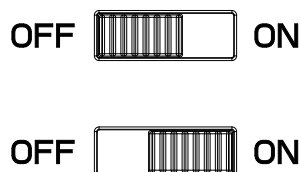
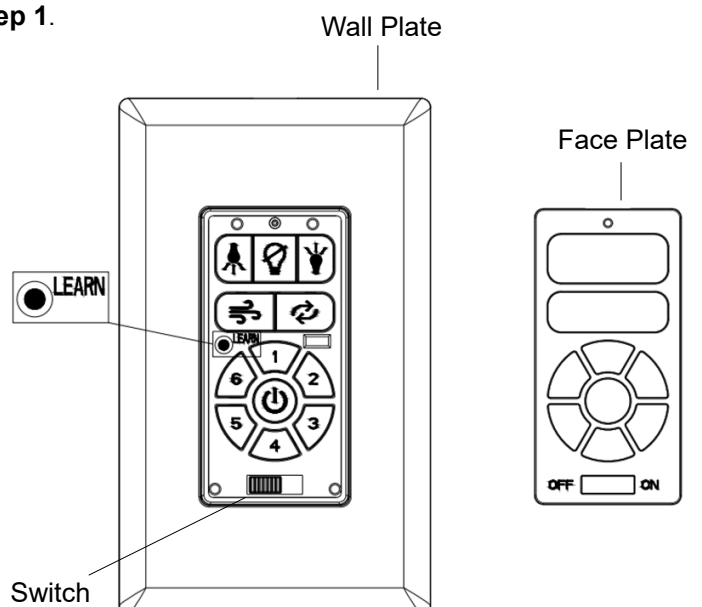

FIG. 4
FIG. 5
Step 1. Slide the **OFF/ON** switch on the face of the transmitter to the “**ON**” position (**Fig. 4**), then press the **LEARN** button on the transmitter. (**Fig. 5**) The fan will turn on for 10 seconds and the light kit (if applicable) will toggle three times and switch to off. This confirms that the pairing process is complete.
Step 2. Snap the face plate back into place on the front of the transmitter first, then snap the wall plate into place on the mounting plate. (**Fig. 5**)
NOTE: To access the **LEARN** button, remove the wall plate (insert a small, flathead screwdriver into the slots at the top and bottom of the mounting plate, and carefully pry the wall plate off of the mounting plate) (**Fig. 5**) then remove the face plate (insert a small, flathead screwdriver into the slots at the top and left side of the face plate, and carefully pry the face plate off of the transmitter). (**Fig. 5**)